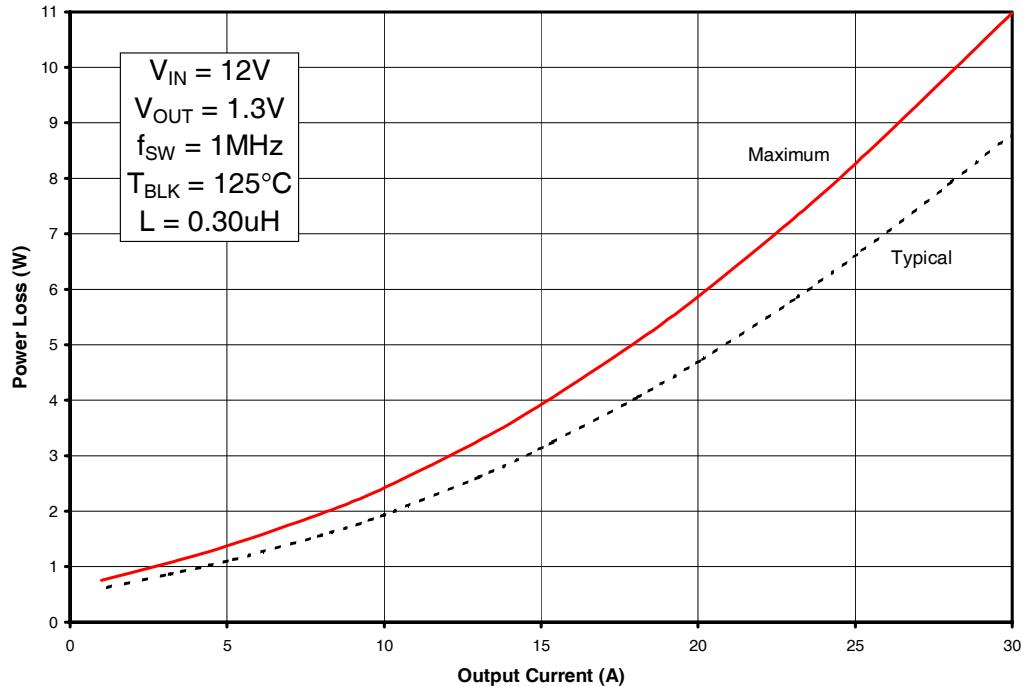
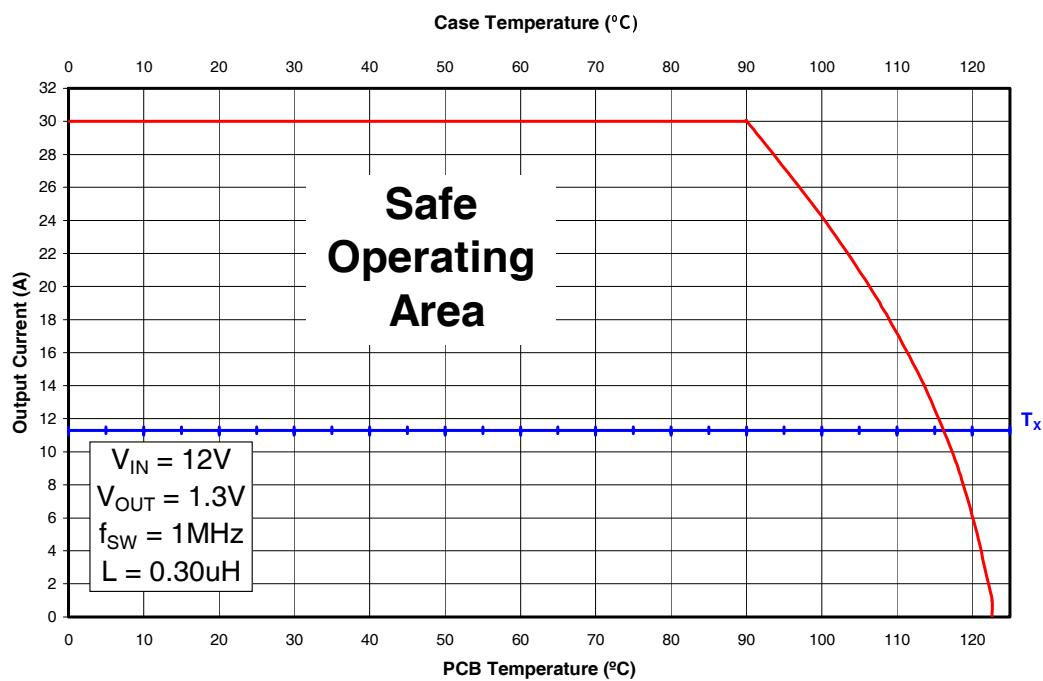
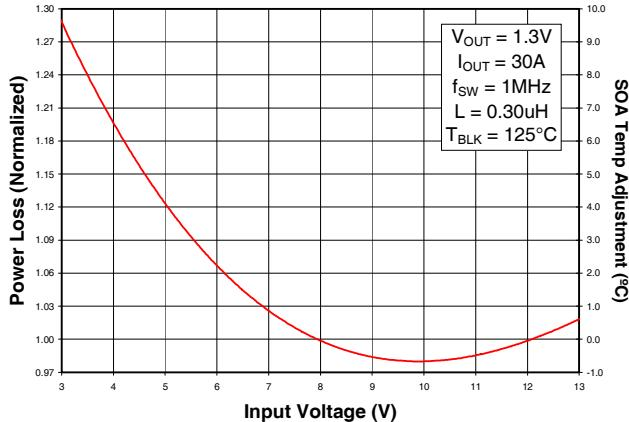

Fig. 1: Power Loss vs. Current
Fig. 2: Safe Operating Area (SOA) vs. T_{PCB} & T_{CASE}
Fig. 3: Normalized Power Loss vs. V_{IN}
To make adjustments to the power loss curves in Fig. 1, multiply the normalized value obtained from the curves in Figs. 3, 4, 5 or 6 by the value indicated on the power loss curve in Fig. 1. If multiple adjustments are required, multiply all of the normalized values together, then multiply that product by the value indicated on the power loss curve in Fig. 1. The resulting product is the final power loss based on all factors. See example no. 1.
To make adjustments to the SOA curve in Fig. 2, determine your maximum PCB Temp & Case Temp at the maximum operating current of each iP2002PbF. Then, add the correction temperature from the normalized curves in Figs. 3, 4, 5 or 6 to the T_x axis intercept (see procedure no. 2 above) in Fig. 2. When multiple adjustments are required, add all of the temperatures together, then add the sum to the T_x axis intercept in Fig. 2. See example no. 2.
- (Fig. 1) Maximum power loss = 11W
- (Fig. 3) Normalized power loss for input voltage ≈ 0.98
- (Fig. 3) Normalized SOA Temperature for input voltage $\approx -0.8^\circ\text{C}$